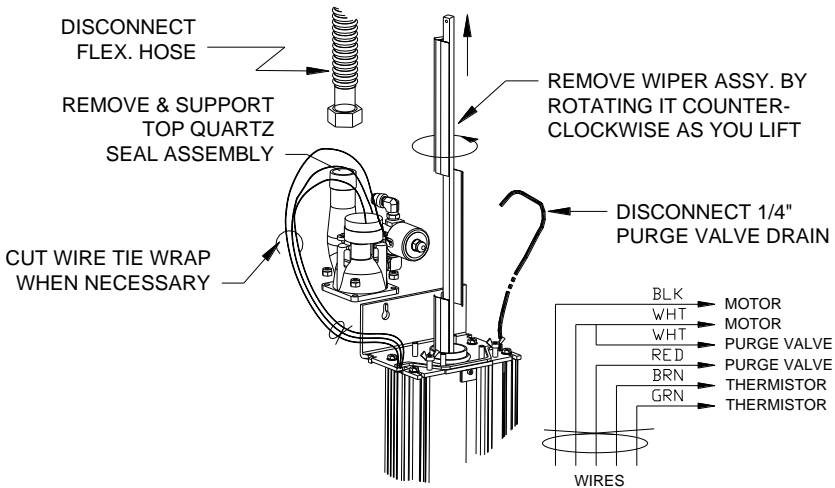

Figure 4C
Step 5: Remove the top quartz seal assembly (FIG. 4C) by lifting it straight up. The wires are bundled together using a tie wrap. If you require more room to lift the top quartz seal assembly, cut the tie wrap to give you more freedom to lift the assembly over the wiper shaft.
Step 6: Remove the wiper assembly (12) by carefully lifting it up and out of the quartz sleeve. Rotating it as you lift will help. **Caution: the wiper blades are sharp, handle them with care.**